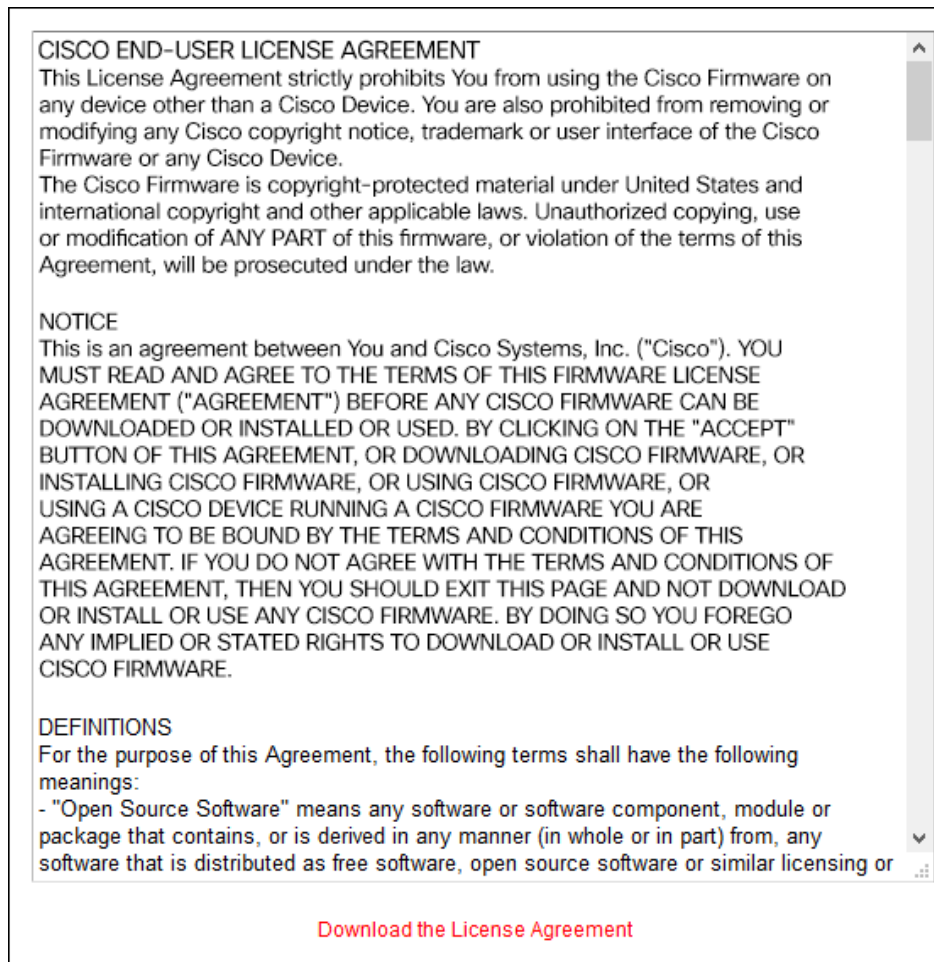

Figure 64. Configurator GUI (End-user license agreement)
- The license agreement dialog will be shown (Figure 64 (page 140)).